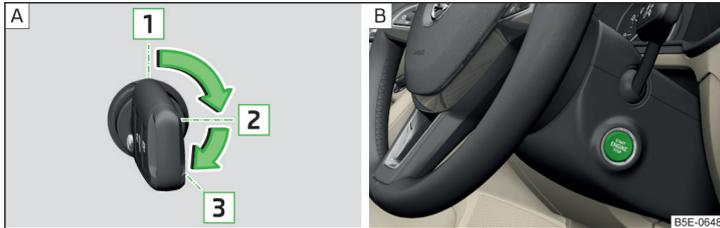

Fig. 227 Positions of the vehicle key in the ignition lock / starter button
Positions of the vehicle key in the ignition lock » Fig. 227 - **A**
» Press the » Fig. 227 - **B** button, the ignition is turned on / off.
» On vehicles with **Ignition lock**, turn the key to position **3** and the engine starts » Fig. 227 on page 198 **A**. Release the key, the engine will start automatically.
» On vehicles with **starter button**, press the button briefly » Fig. 227 on page 198 - **B**, the motor will start automatically.
- » On vehicles with **ignition lock**, turn the key to position **1** » Fig. 227 on page 198 **A**.
- » On vehicles with **starter button**, press the button » Fig. 227 on page 198 - **B**. The engine and the ignition will be switched off simultaneously.
- » Keep the knob pressed » Fig. 227 on page 198 - **B** or press it twice within 1 second.